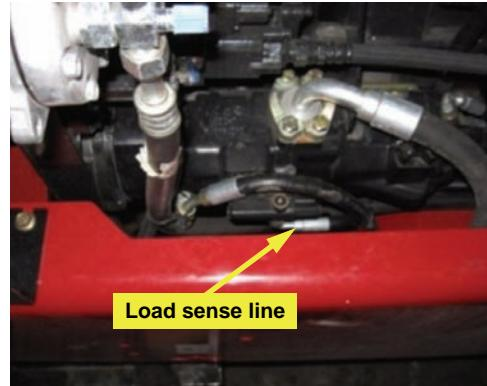

Figure 4b: Pump load sense line
- b. Locate the front hydraulic pump on the front left side of the engine. Locate the load sense line (Figure 4b).